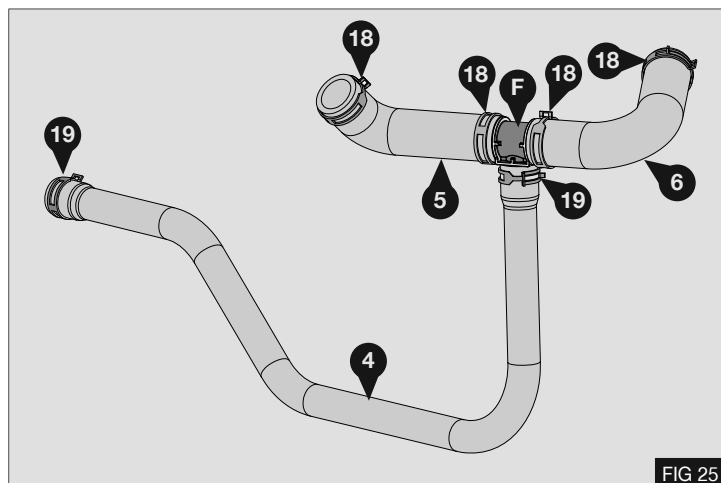

FIG 25
1. Re-fit the viscous fan (C) and tighten (reverse thread).
2. Assemble the hoses (4), (5), and (6) onto the original plastic T junction (F), secure with Hose clamps (18), (19). - Fig 25